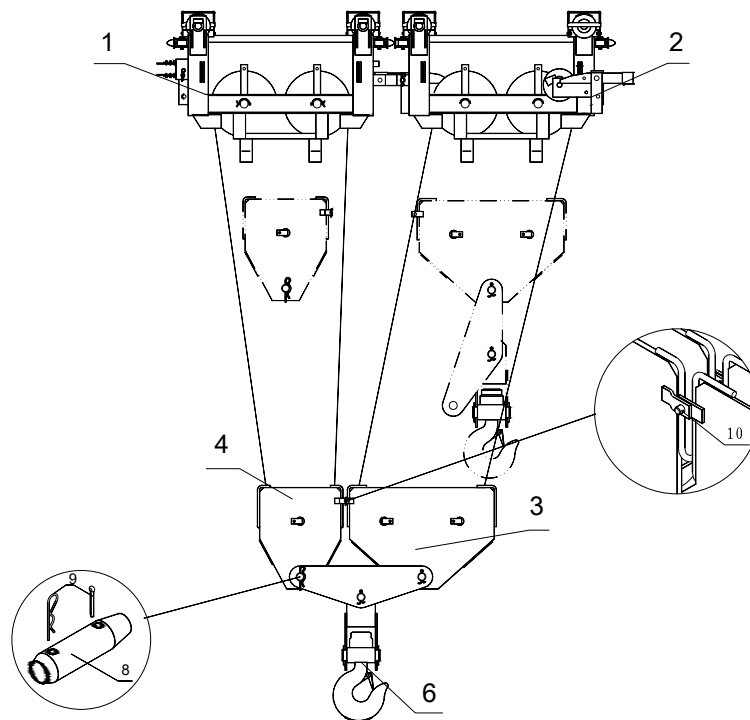

Fig. 1.5.2-1
- Bring the front trolley (2) against the rear trolley (1) (opposite the jib foot).
- Connect both trolleys with the connecting pin (8) and secure it with the cotter pins (9).
- Lower the single hook block (4) down to the ground.
- Connect both hook blocks (4 and 3) by means of the fittings (8, 9 and 10) (see Fig. 1.5.2-1).